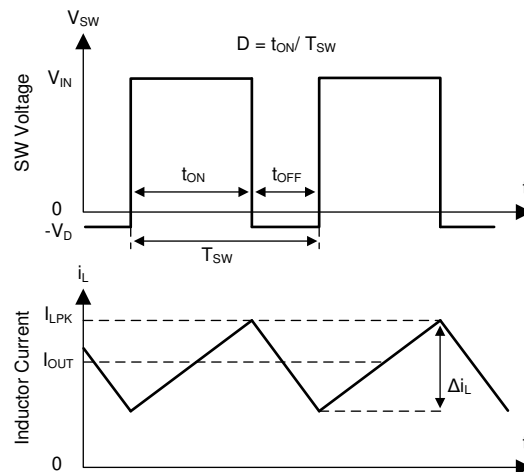

Figure 10. SW Node and Inductor Current Waveforms in Continuous Conduction Mode
The following operation description of the LM76002/LM76003 refers to the *Functional Block Diagram* and to the waveforms in *Figure 10*. The LM76002/LM76003 supplies a regulated output voltage by turning on the internal high side (HS) and low side (LS) NMOS switches with varying duty cycle (D). During high-side switch on-time t_{ON} , the SW pin voltage V_{SW} swings up to approximately V_{IN} , and the inductor current i_L increase with linear slope. The HS switch is off by the control logic. During the HS switch off-time, t_{OFF} , the LS switch is turned on. Inductor current discharges through the LS switch, which forces the V_{SW} to swing below ground by the voltage drop across the LS switch. The regulator loop adjusts the duty cycle to maintain a constant output voltage. The control parameter of buck converter is defined as duty cycle $D = t_{ON} / t_{SW}$. In an ideal buck converter, where losses are ignored, D is proportional to the output voltage and inversely proportional to the input voltage: $D = V_{OUT} / V_{IN}$.